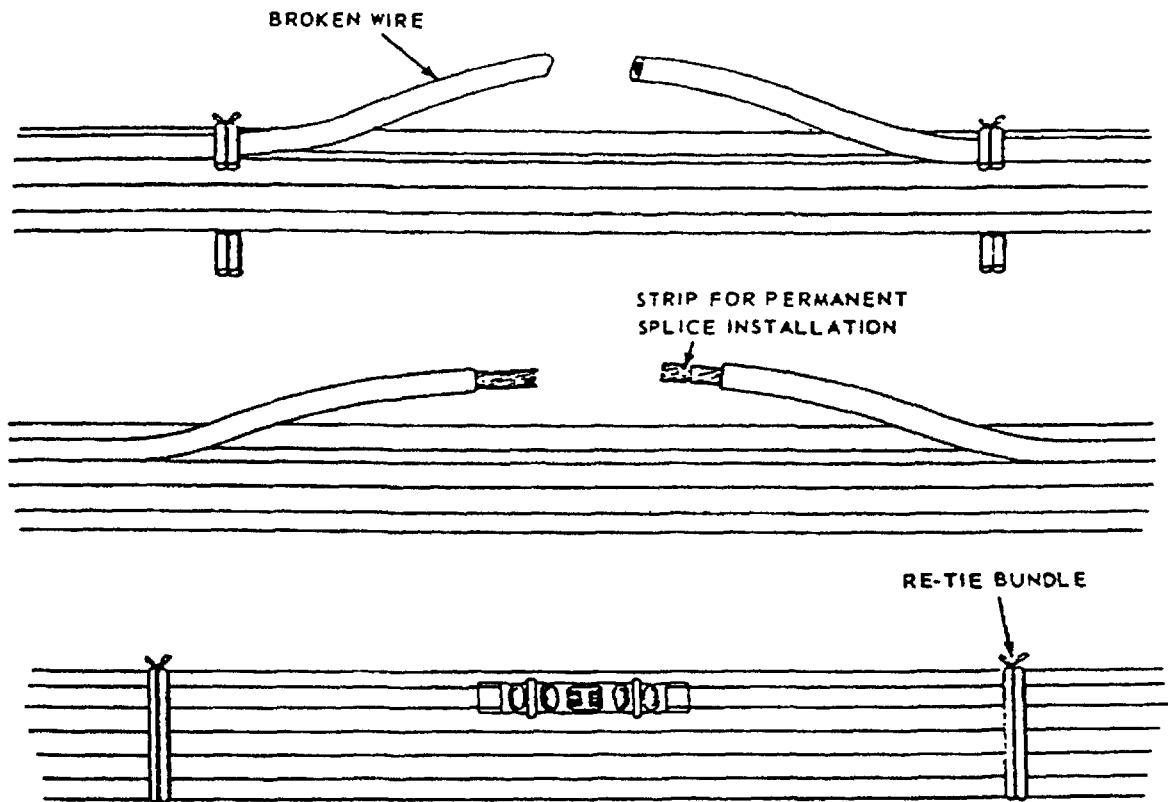

Figure 1. Permanent Splice Repair of Wire
9. Insulated permanent copper splices conforming to MIL-T-7928, MIL-T-7928/3, MIL-T-7928/5 and MIL-S-81824 are used to join small copper wire sizes No. 26 through No. 10. Typical splices are shown in T.O. 01-1A-14, Chapter 5, Figure 1. Note that splice insulation extends over the wire insulation. Each splice size can be used for more than one wire size. Splices are color coded in the same manner as insulated small copper terminal lugs.
19. When splicing wires by means of permanent splices, observe the following procedures (see Figure 1):